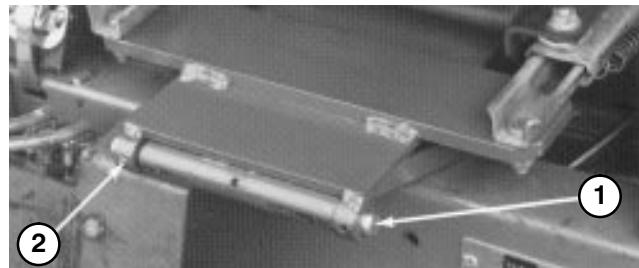

Figure 9
- Mount seat and seat support to seat pivot bracket with pivot shaft and roll pin (Fig. 9).
11. Mount seat and seat support to seat pivot bracket with pivot shaft and roll pin (Fig. 9).